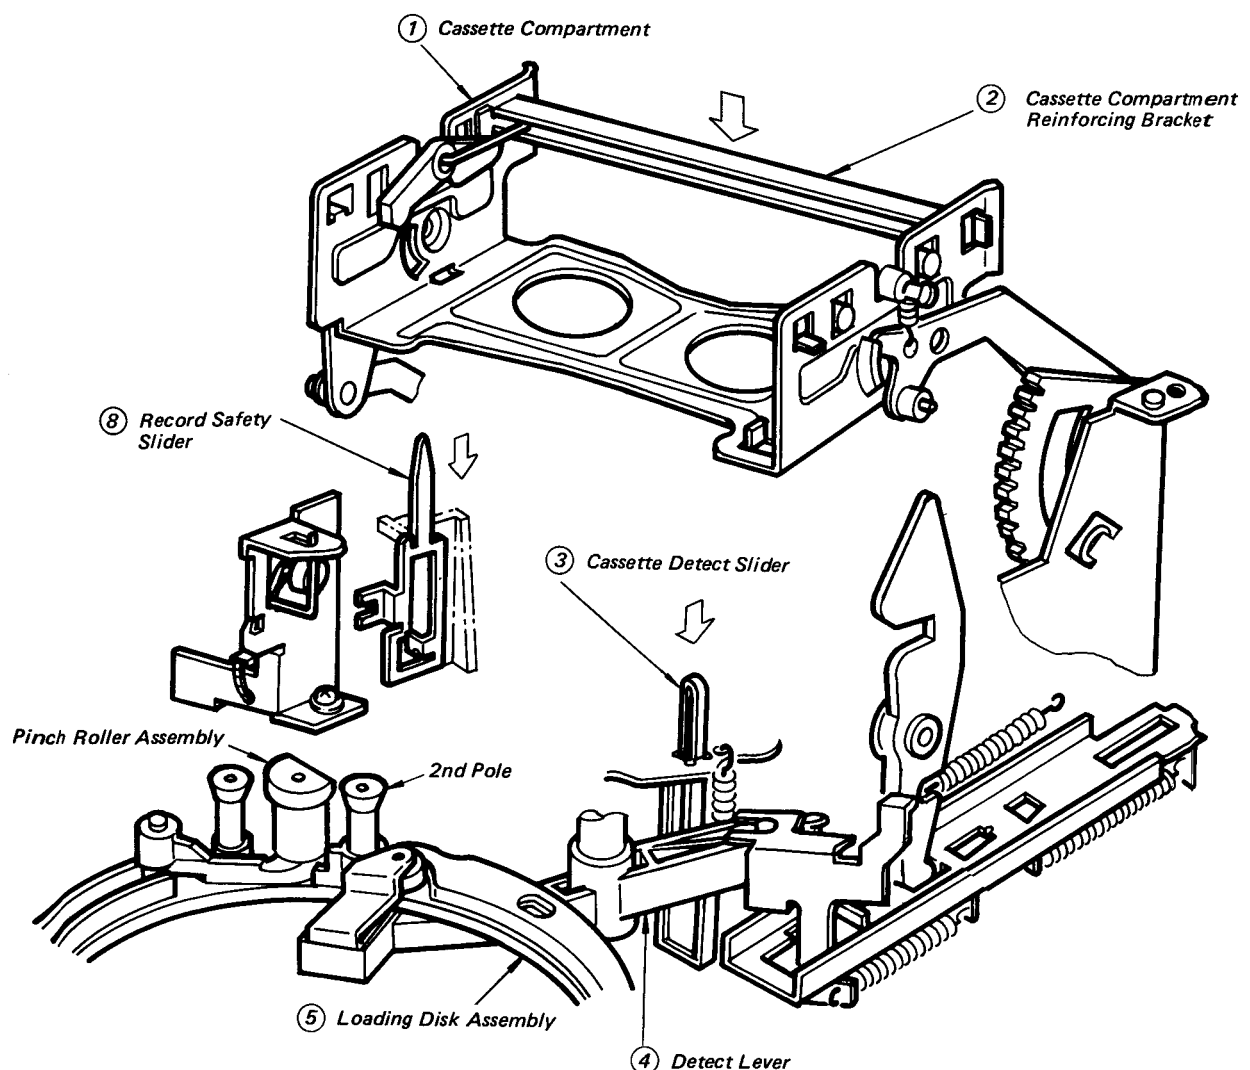

Fig. 5-3 Setting for Operation without Tape Cassette
4. Operation without Cassette (see Figs. 5-3, 5-4)